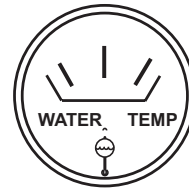

Figure 63. Coolant Temperature Gauge
9. The **coolant temperature gauge** (Figure 63) indicates the coolant temperature. Under normal operating conditions, this gauge should indicate approximately 167°–194°F (75°–90°C).